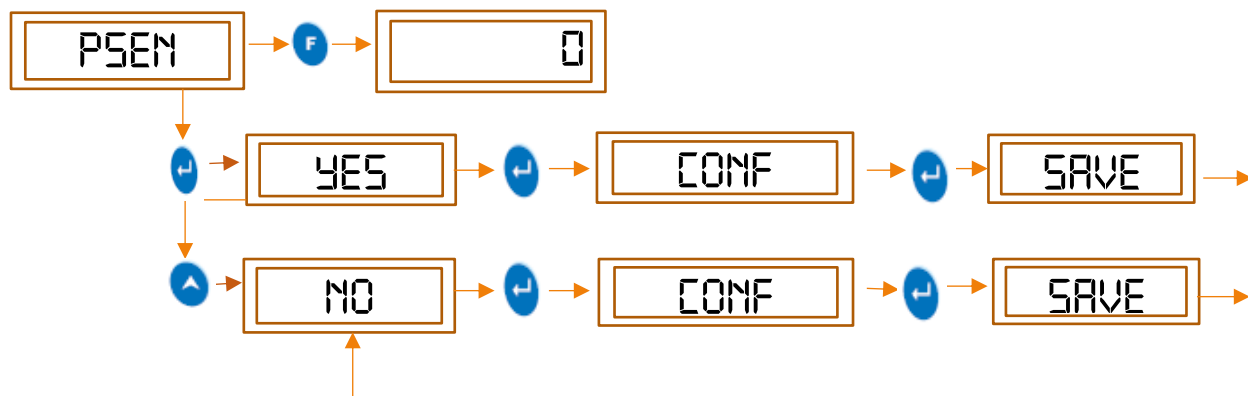

Figure 21 PSEN (Password Enable)
- For accessing the main menu if the user wants to enable the password authentication, it can be done using the procedure shown in figure 21.